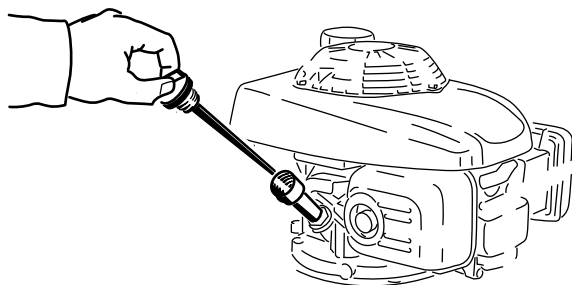

Figure 21
5. Retirez la jauge (Figure 21).